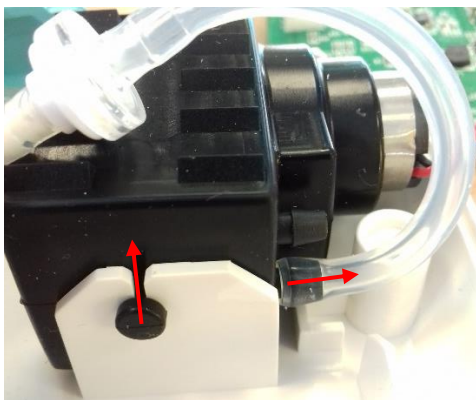
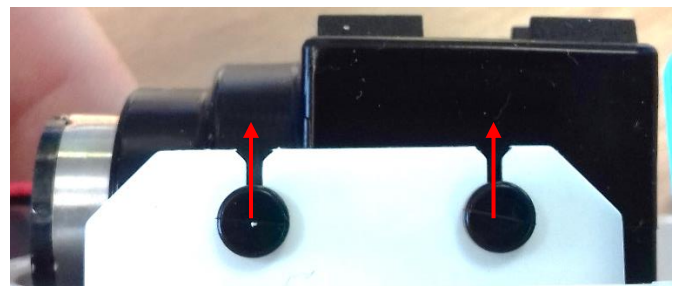

Fig: 11
Fig: 12
2. Remove the silicone tubes from the vacuum motor (Fig: 11), solenoid valve set (Fig: 9) and pressure sensor. (Fig: 10)
3. Remove the silicone tube from the vacuum motor. (Fig: 11)
4. Remove the three vacuum motor retainer rubbers from the bottom case. (Fig: 11 & Fig: 12)